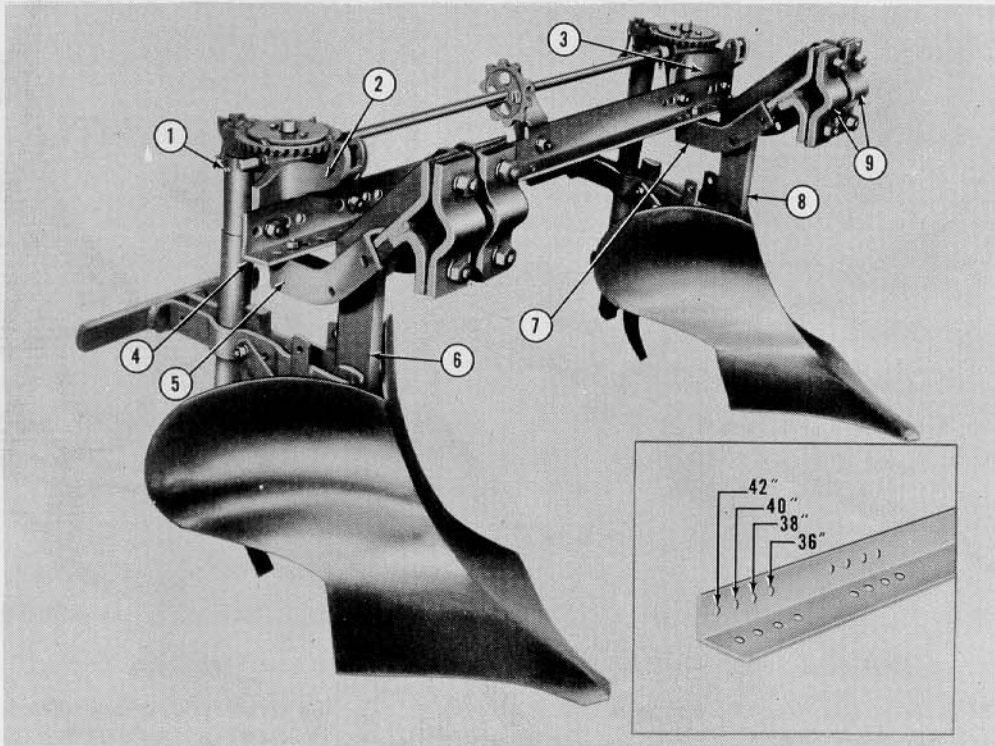

Figure 6
1. Assemble the standard bottoms, subsoilers and seed tubes to the beam assemblies (6) and (8), Figure 6, as follows:
2. Place the bottom assemblies (6) and (8), Figure 6, in the position shown, and place the mounting angle (4), on the support angles (5) and (7) of the beam assemblies.
NOTE: Figure 6 shows the seed can brackets (2) and (3) bolted to the mounting angle (4) for planting rows 40 inches apart. Refer to the in-
sert Figure 6 to find the proper setting for the brackets at the desired row spacing; 36, 38, 40 or 42 inches.
- a. Bolt the mounting angle (4) to the seed can brackets (2) and (3), Figure 6, at the desired row spacing.
- b. Bolt the mounting angle (4) to the support angles (5) and (7) of the beam assemblies as shown in Figure 6.
let casting with a stove bolt (1), Figure 6.
- d. Remove the clamps (9), Figure 6, from each beam assembly (6) and (8).